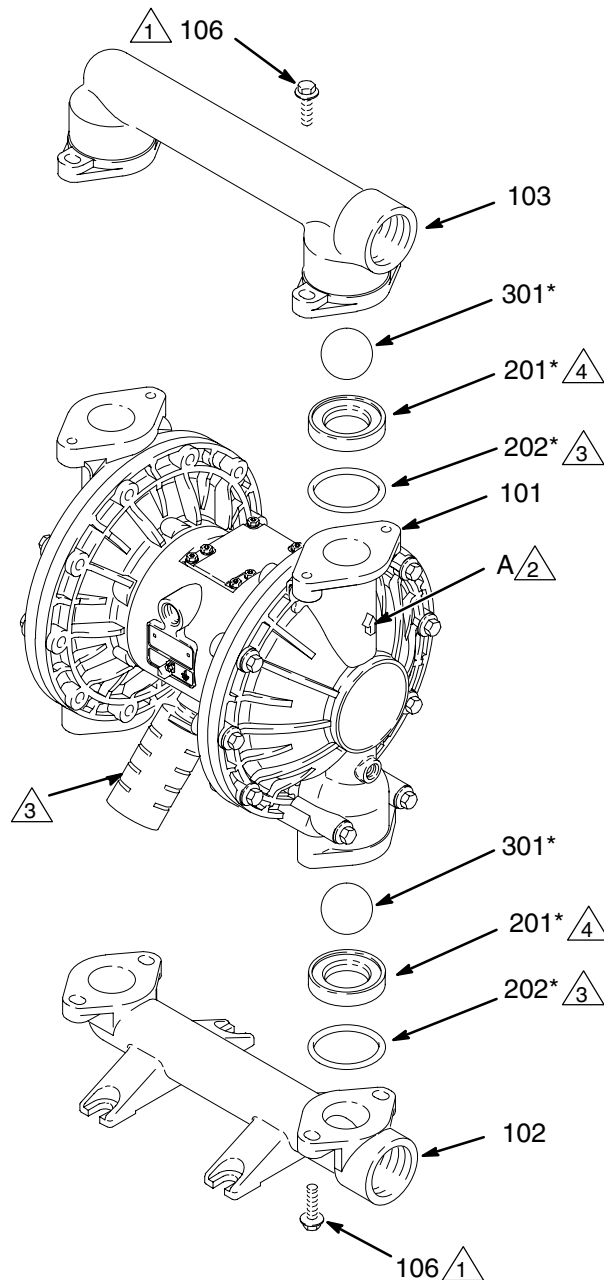

Fig. 10
3. Using a 13 mm socket wrench, remove the four bolts (106) holding the outlet manifold (103) to the fluid covers (101). See Fig. 10.
4. Remove the o-rings (202, *not used on some models*), seats (201), and balls (301) from the manifold.
5. Turn the pump over and remove the inlet manifold (102). Remove the o-rings (202, *not used on some models*), seats (201), and balls (301) from the fluid covers (101).
2. Reassemble in the reverse order, following all notes in Fig. 10. Be sure the ball checks are assembled **exactly** as shown. The arrows (A) on the fluid covers (101) **must** point toward the outlet manifold (103).